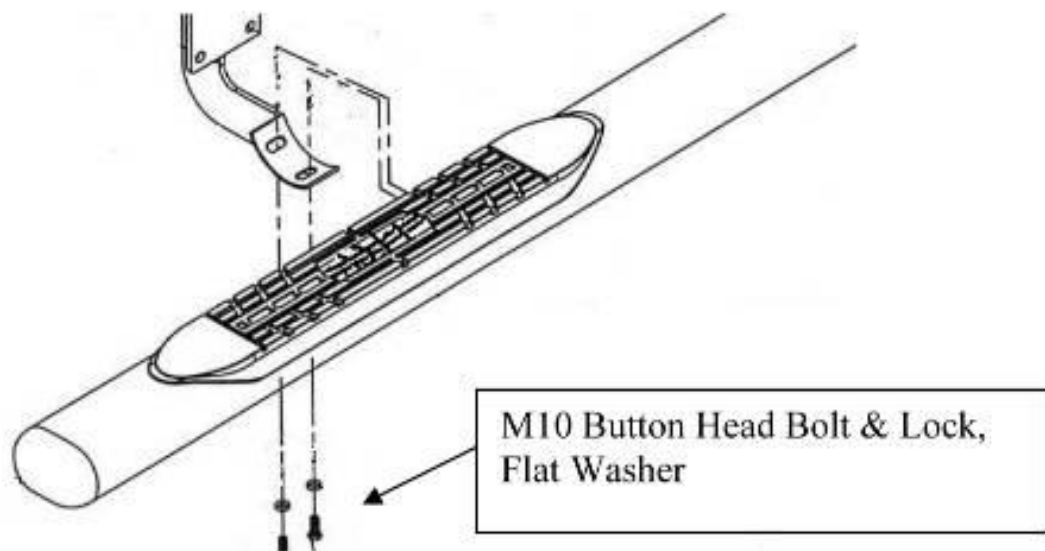

Figure 4. Installation View of Bracket & Bar
5. Assemble with M10 button head bolts and M10 washers. 2 bolts per bracket, 4 bolts per bar. Fig. 4.